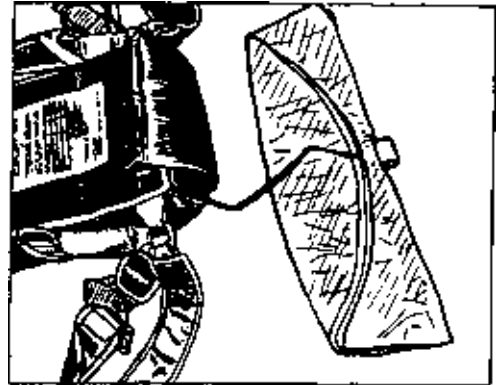

Figure 3
Step 3 Fold the outside edge with the bridle inside back towards the handle. *Figure 3*